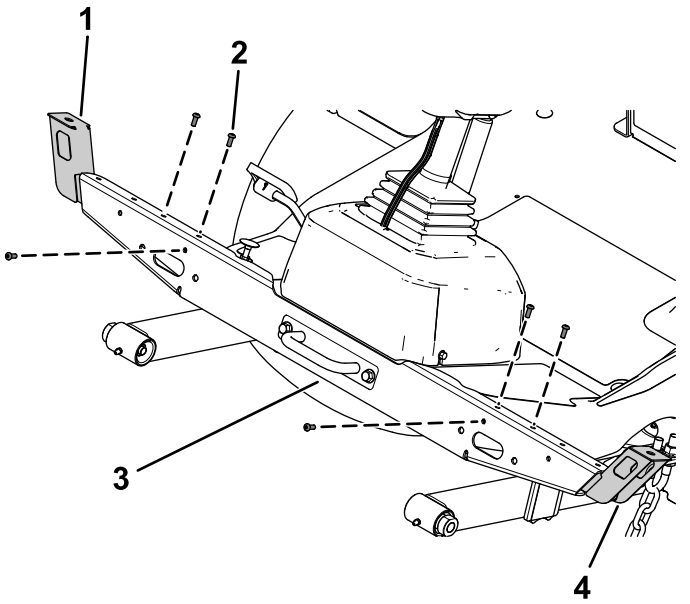

Figure 19
- Secure the left light mount and right light mount to the light cross mount using 3 button-head bolts (1/4 x 5/8 inch) through the speed nuts on each side (Figure 19).